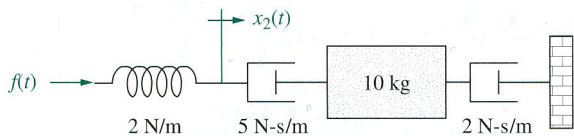

FIGURE P2.11
25. Find the transfer function,  $G(s) = X_2(s)/F(s)$ , for the translational mechanical system shown in Figure P2.11. (Hint: place a zero mass at  $x_2(t)$ .) [Section: 2.5]